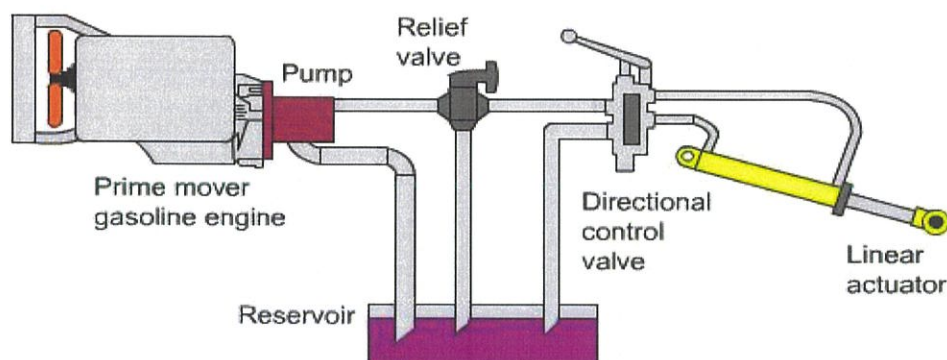

Figure A2(c) / Rajah A2(c)
- CLO1 (c) Figure A2(c) shows the hydraulic system, demonstrate your understanding of hydraulic system fundamentals by describe how the energy is transferred from the prime mover to the linear actuator and recommend a suitable safety enhancement for the system.